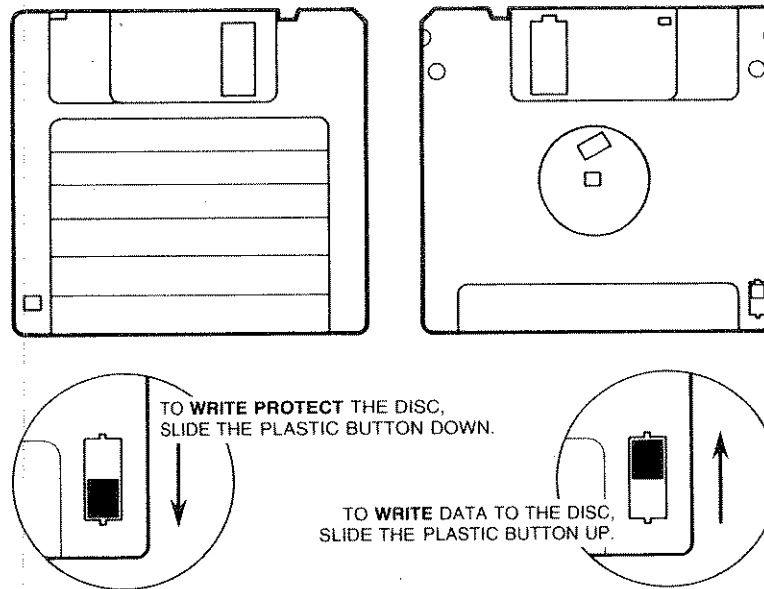
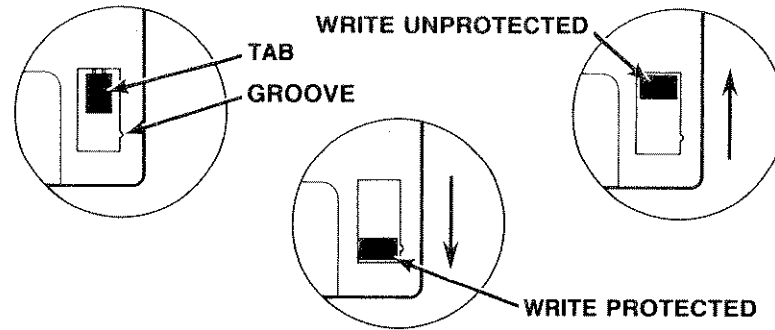

Figure 6: Write Protect Tab on the HP 9122
Figure 7: Write Protect Tab on the HP 9121
- Follow Figure 6 if you wish to write protect a double-sided disc, and Figure 7 if you wish to write protect a single-sided disc.